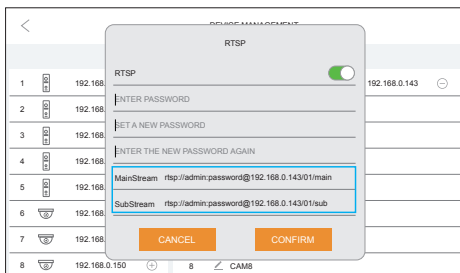

Figure 19
- Step 4: After turn on “RTSP”, the user can add the door panel to the NVR through the MainStream and SubStream addresses of the door panel, as shown in the Figure 19.